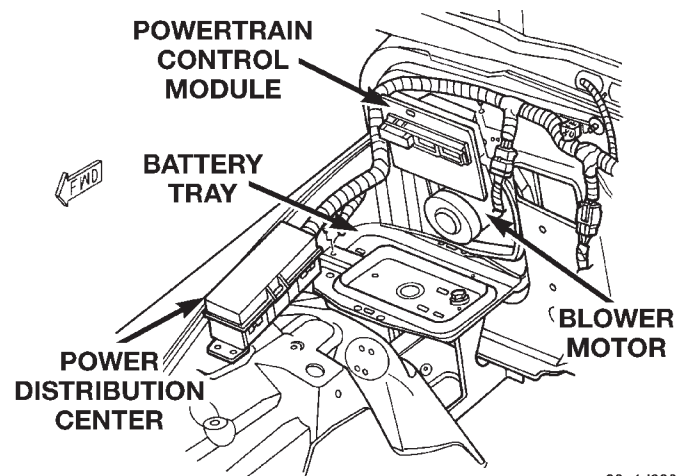

Fig. 36 Powertrain Control Module (PCM) Remove/Install
(1) Remove the battery from the battery tray. Refer to Group 8A - Battery for the procedures.
(2) Remove the three screws that secure the Powertrain Control Module (PCM) to the mounting bracket on the engine compartment side of the dash panel. Move the PCM away from the blower motor opening in the dash panel (Fig. 36).